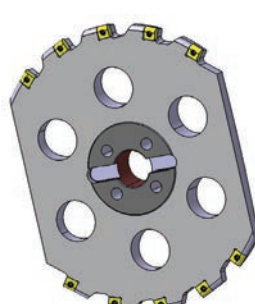

FIG 4: Tangential mounting design
a) Tangential mounting of inserts on the cutter. (Refer to FIG 4) One can see the cutter is chopped from both sides in order to accommodate on the machine ATC.